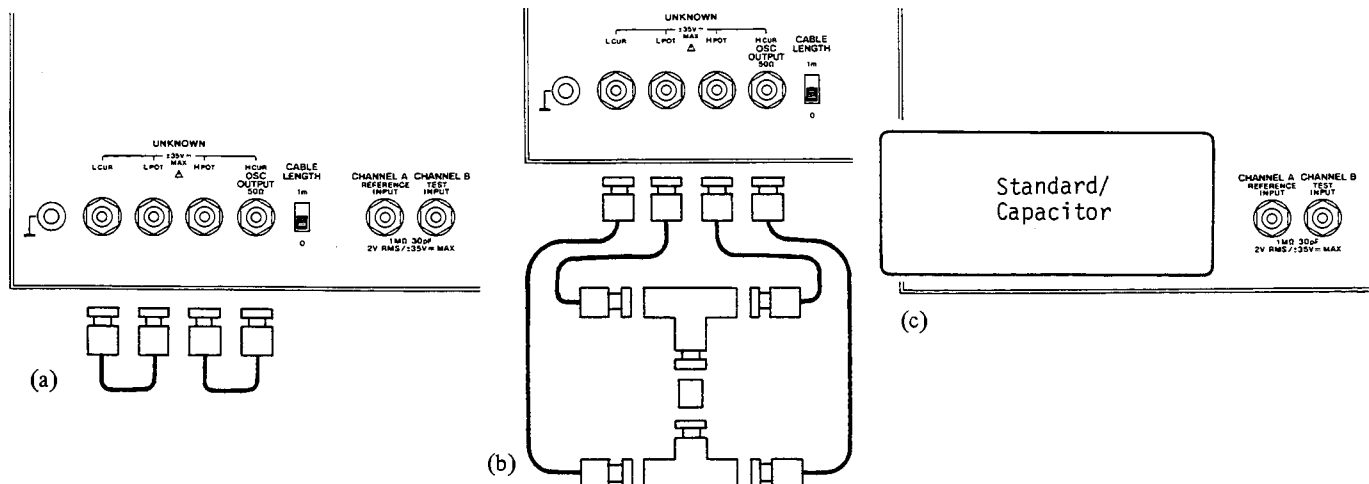

Figure 4-3. Capacitance Accuracy Test Setups
*Note: If the OPEN and SHORT terminations are not available, use the test setups shown in Figure 4-3 (a) and (b) for steps b and d, respectively. Equipment required for these alternate test setups is as follows:*
- b. Connect the OPEN termination directly to the UNKNOWN terminals as shown in Figure 4-3 (c).
- d. Connect the SHORT termination directly to the UNKNOWN terminals as shown in Figure 4-3 (c).
- f. Connect the 1pF Standard Capacitor directly to the UNKNOWN terminals as shown in Figure 4-3 (c).